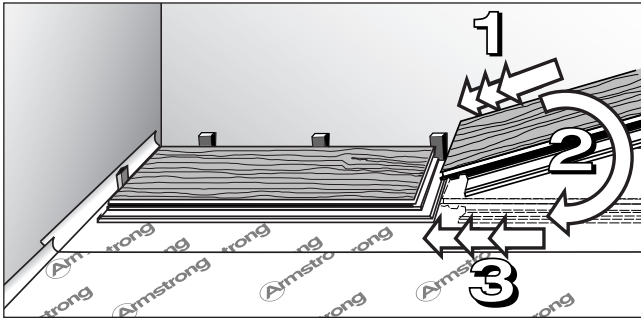

Fig. 8
3. Install second and subsequent full pieces in the first row by aligning short ends of boards and locking into place (Fig. 8).
4. Use spacers along all sides that butt up against walls to maintain 1/4" (6.35 mm) to 1/2" (12.7 mm) expansion zone (Fig. 8 and 9).